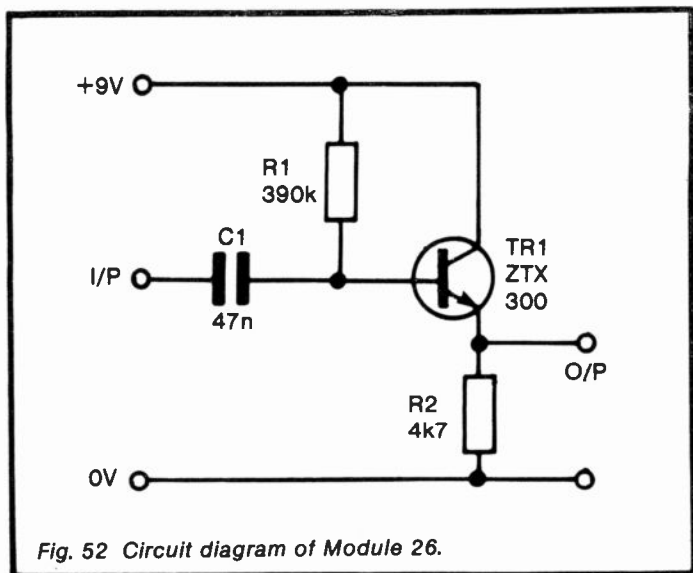

Fig. 52 Circuit diagram of Module 26.
*Circuit diagram:* see Figure 52.